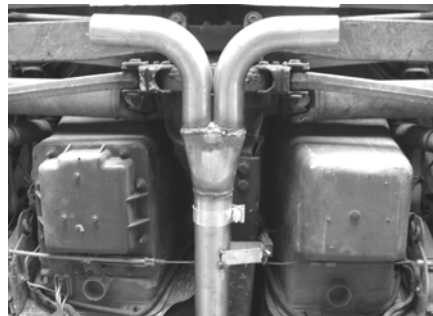

Figure 2
2. Place a clamp over the expanded end of the Y-pipe assembly and place into position sliding them over the front pipe/flange assembly as shown in figure 2. **DO NOT** tighten the clamps.